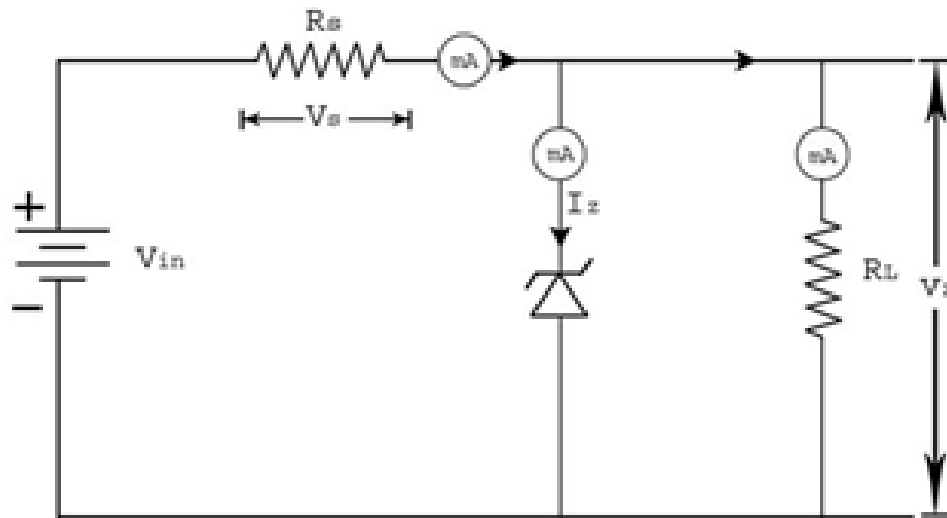

Fig 3: Zener diode shunt regulator
- ◎ The purpose of a voltage regulator is to maintain a constant voltage across a load regardless of variations in the applied input voltage and variations in the load current. A typical Zener diode shunt regulator is shown in Figure 3. The resistor is selected so that when the input voltage is at $V_{IN(min)}$ and the load current is at $I_{L(max)}$ that the current through the Zener diode is at least $I_{z(min)}$. Then for all other combinations of input voltage and load current the Zener diode conducts the excess current thus maintaining a constant voltage across the load. The Zener conducts the least current when the load current is the highest and it conducts the most current when the load current is the lowest.